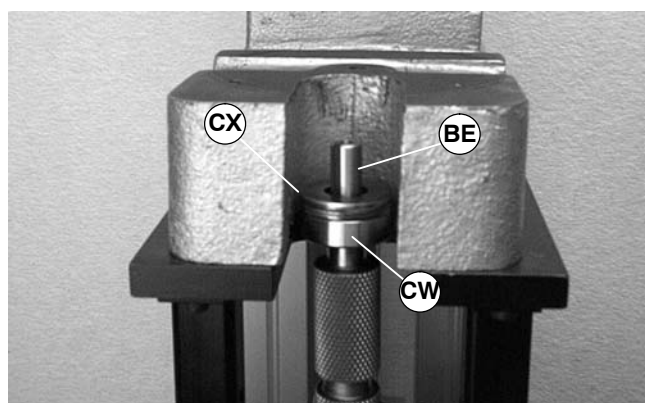

Figure 58
2. Slide bearing (CW) (part # 802-124) over drive pulley (BE). Place two 5/8 flat washers (CX of Figure 58), or equivalent, over the drive pulley (BE) and against the bearing.